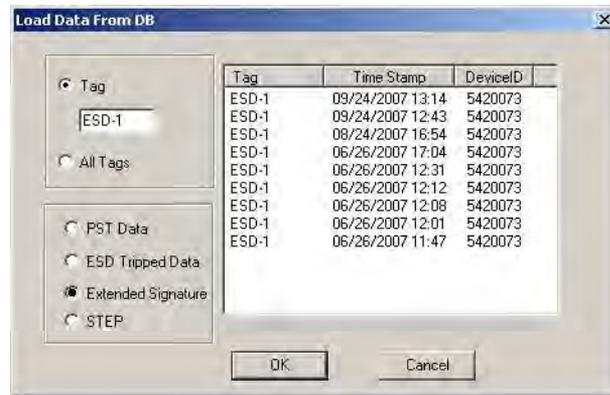

Figure 240 Load from DB
4. Click **Load from DB** and the dialog appears (Figure 240).